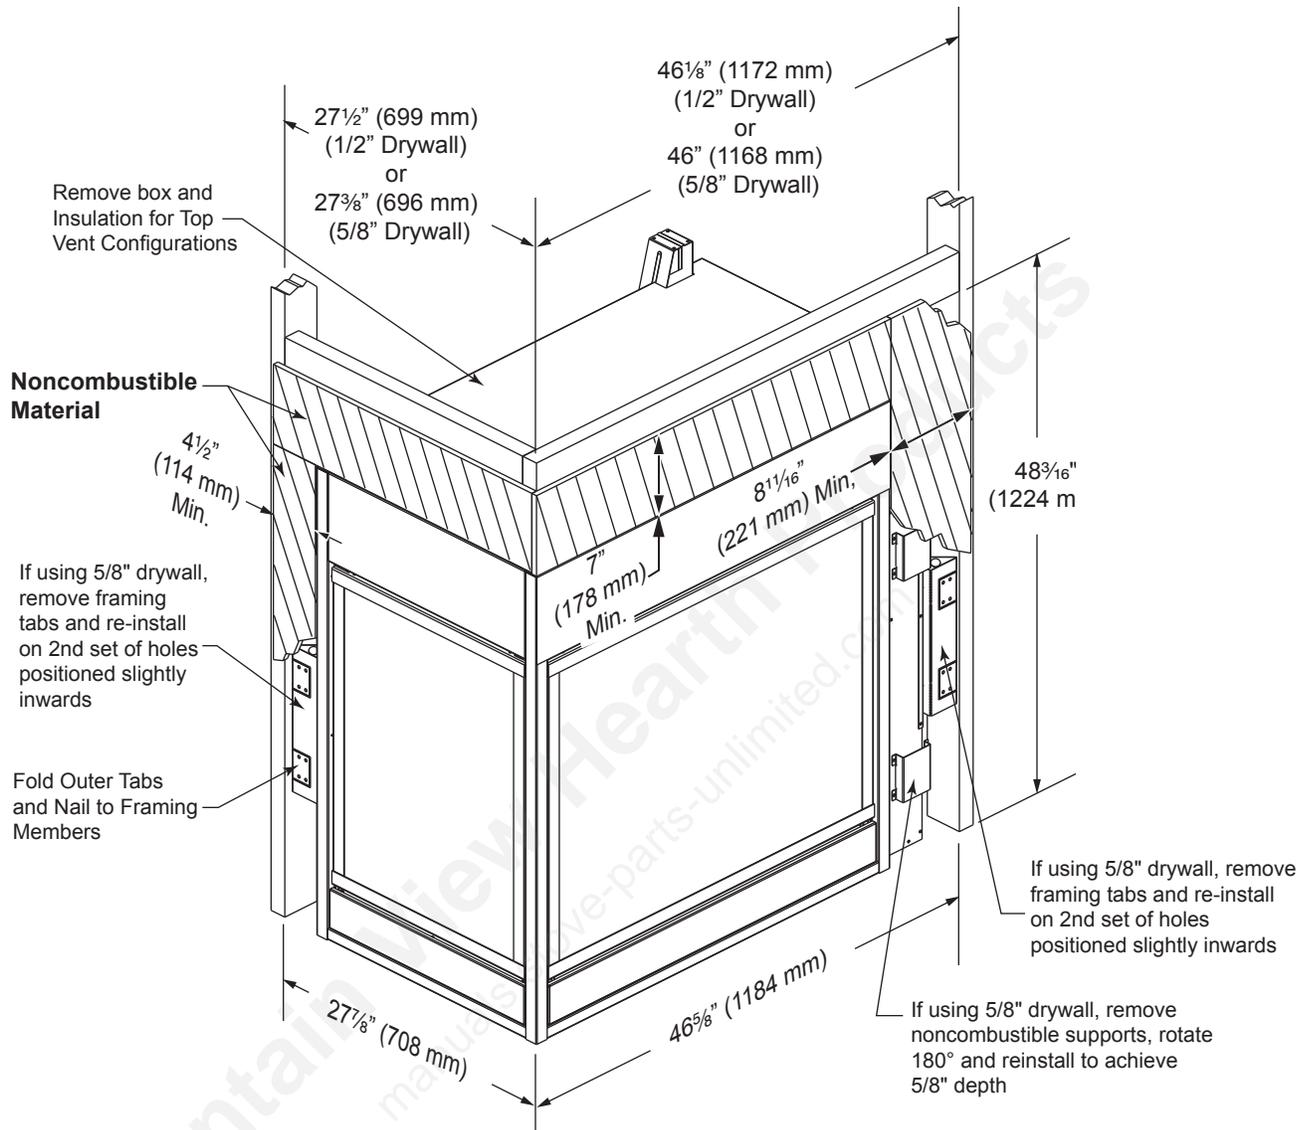

Figure 6 - CRLDV and CLLDV (Corner) Framing
The fireplace must be secured to the floor and/or to framing studs as shown in *Figure 6*. Use four (4) wood screws or masonry/ concrete screws to secure fireplace to the floor. Use four (4) screws to attach fireplace to framing. The side brackets or nailing flanges are designed to accommodate two wall boards thicknesses, 1/2" or 5/8".